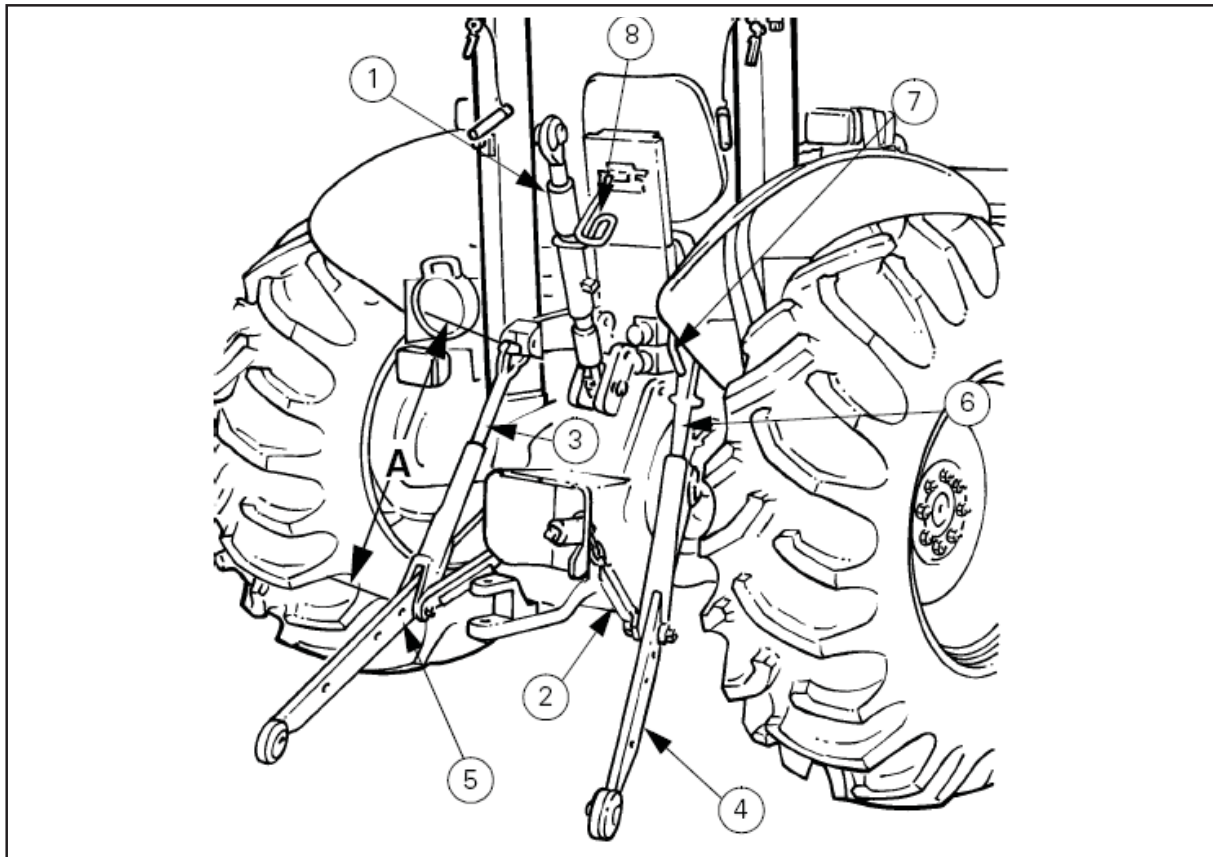

Fig. 66
The lower links, (4, Fig. 66) absorb most of the load exerted by a mounted, or semi-mounted implement. The links are raised and lowered by the action of the lift arms. The lift arms are connected to the lift rods (3) and (6) which couple the lift arms to the lower links (4). The lower links are ball jointed to allow the implement to float sideways slightly when operating, but excessive sideplay which would allow the implement to contact the rear tires is prevented by the lower link stabilizers (2).
Key to Fig. 66: